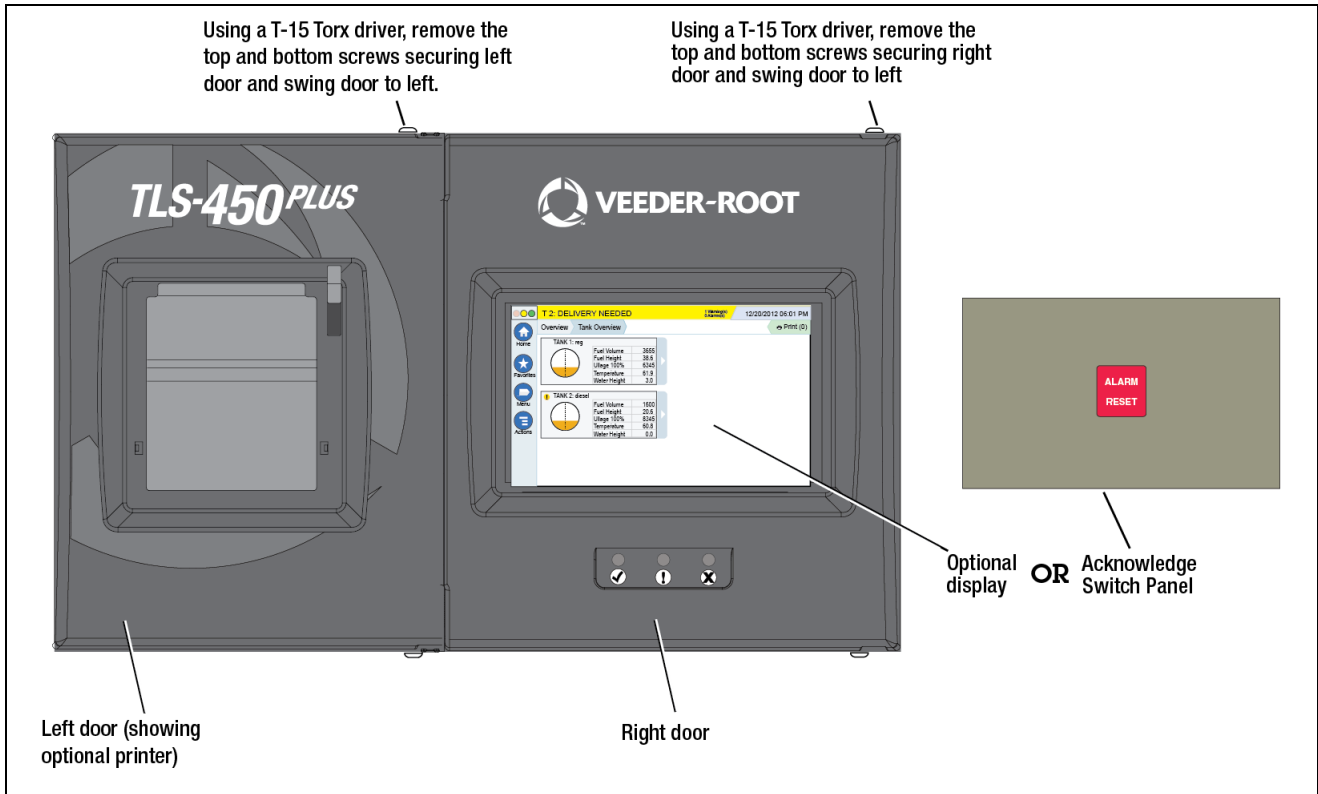

Figure 26. TLS-450PLUS Access
1. Open both front doors of the console (see Figure 26).